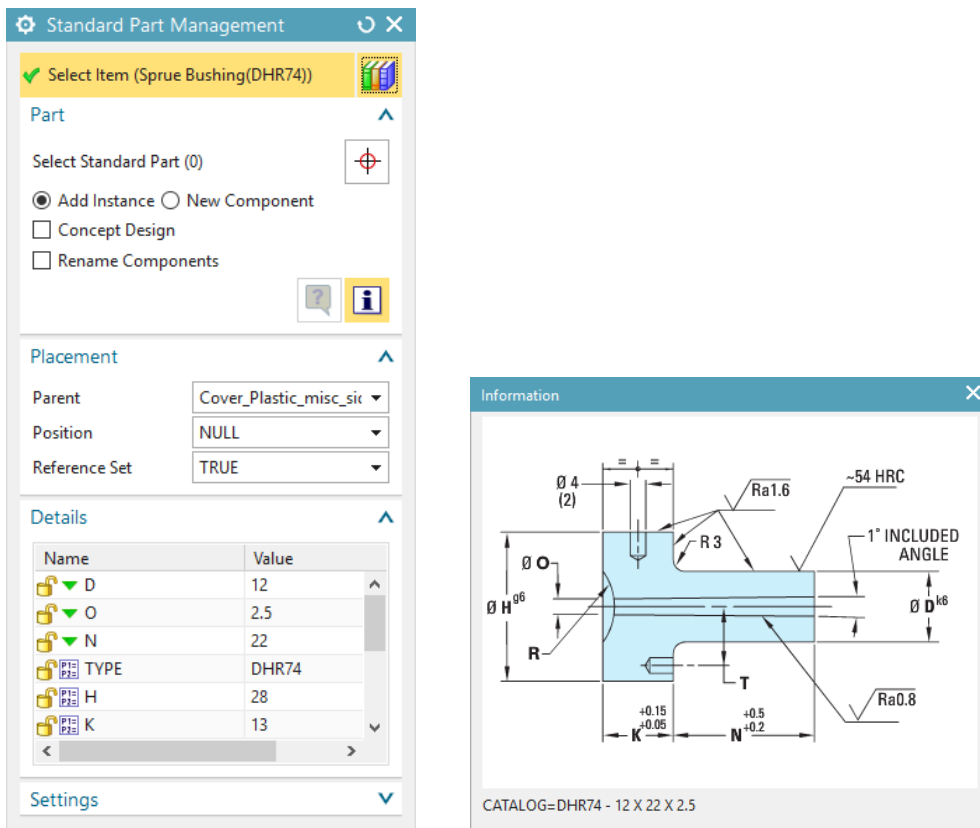

Figure 15-117 The Standard Part Management dialog box and the Information window
2. Double-click on the **Sprue Bushing(DHR74)** from the **Member Select** panel; the **Standard Part Management** dialog box is displayed with the **Information** window, refer to Figure 15-117.